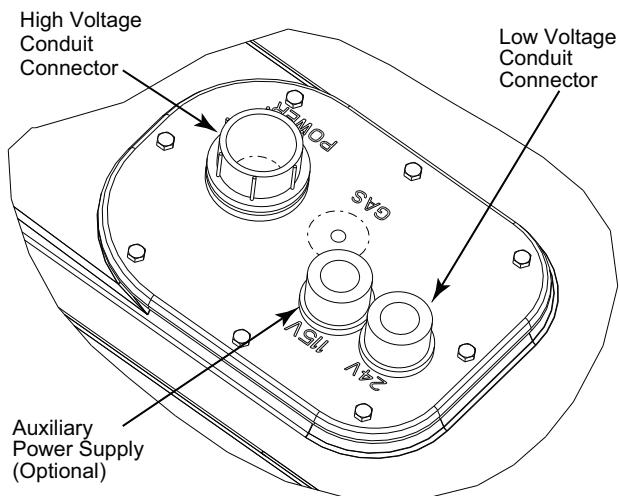

Fig. 27 – Thru-Base Connection Fittings
The 3/4 in. bulkhead connector enables the low-voltage control wires to pass through the basepan. The 1/2 in. bulkhead connector allows the high-voltage power wires to pass through the basepan. See Fig. 27.
3. Place the gasket over the embossed area in the basepan, aligning the holes in the gasket to the holes in the basepan. See Fig. 27.